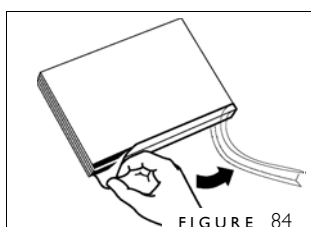
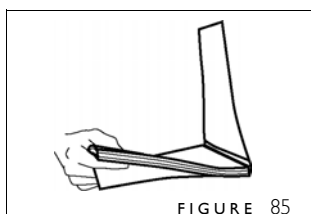

FIGURE 84
FIGURE 85
2. Peel off the release liner from the back of your cooled book block (figure 84). Then, insert the book block into your cover (figure 85). Make sure the front page is under the front of your cover .